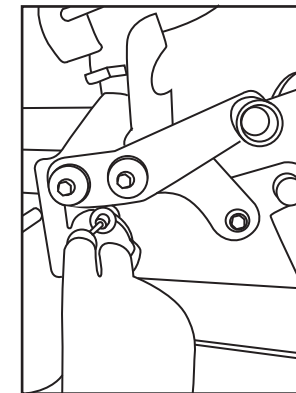

Fig 1
1. Turn bender "ON" by flipping the Power Switch (4)
2. Engage the mast lock handle (9) and Using the Manual Control Buttons located on the main control panel (4) Raise the main mast
3. Release the Mast lock handle (9) ensure it fully engages the Mast
7. Insert the Collar pin through the collar and shoe with the assist pin hole out (Fig 1)